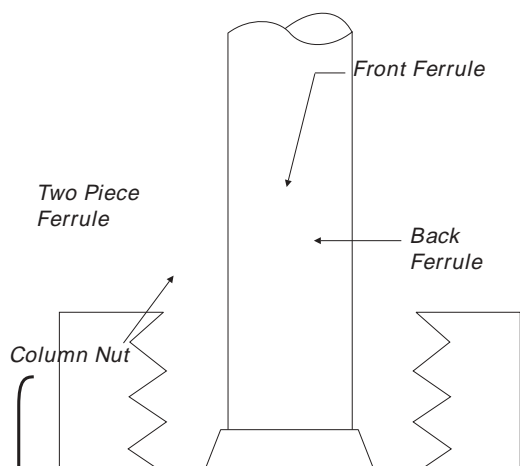

Figure 5
1. Metal packed columns are usually installed with a metal two-piece ferrule. Place nuts and ferrules on both ends of column as shown in Figure 5.